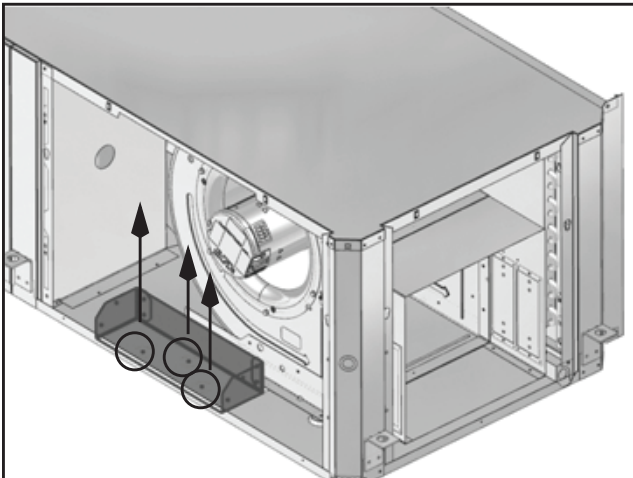

Fig. 29 - Screws Holding Bracket
3. Remove and retain bracket by removing (3) screws. See Fig. 29.